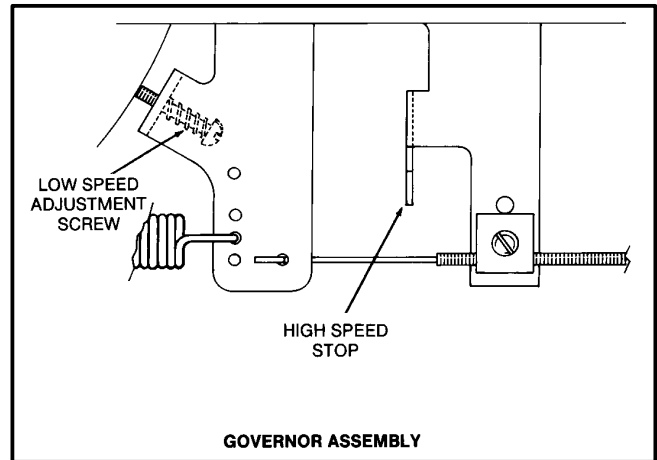

FIGURE 7-1. GOVERNOR SPEED ADJUSTMENT
2. Move the engine speed control to the slow position. Adjust the low speed adjustment screw on the governor so the throttle stop screw on the carburetor controls engine speed. Adjust the throttle stop screw for 1000 rpm idle. See Figures 7-1 and 7-2.